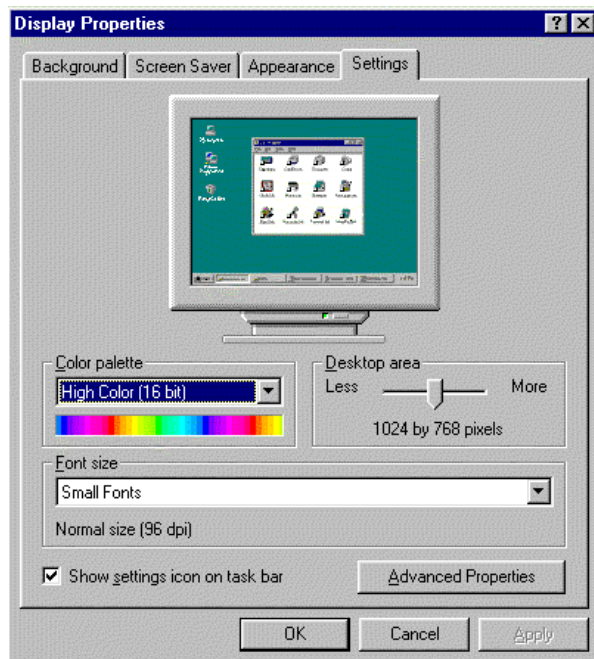

fig. 2-1 Control panel for screen resolution and colour depth
- Double click on the **Display** symbol and then on **Settings** to see current settings. Or go to your desktop, click the right mouse button and select **Settings** from the appearing menu. A dialogue display similar to that in fig. 2-1 appears on the screen.